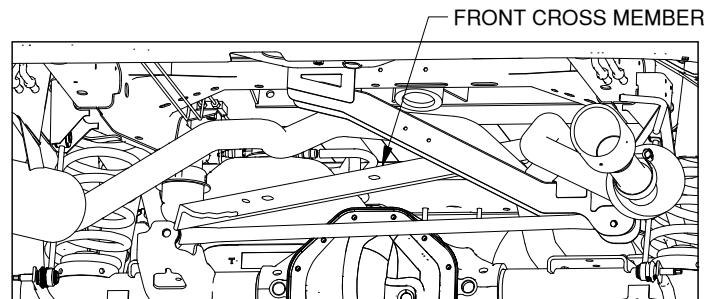
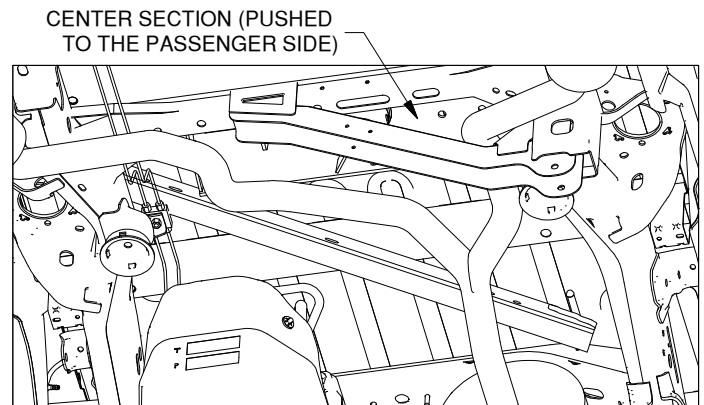

Figure C3: View looking under truck bed toward the cab.
Figure C4: View looking up under truck bed. (Axle not shown)
3. **Position the front cross member (Dual and single exhaust).** The front cross member is the 2" x 2-1/2" angle with five holes in one flange. While holding the front cross member in an inverted "V" with the flange with holes in it towards the passenger side of the truck, move the cross member over the driver side of the rear axle, as shown in Figure C3. Lift the trailing end toward the rear of the truck over the driver side frame rail, see Figure C4. Slide the cross member toward the driver side until the leading end of the cross member can be placed on top of the passenger side frame rail. It may be necessary to adjust the wiring in the driver side wheel well to give the cross member clearance on the frame. When the cross member is spanning both frame rails, push the front cross member forward to make room to install the center.